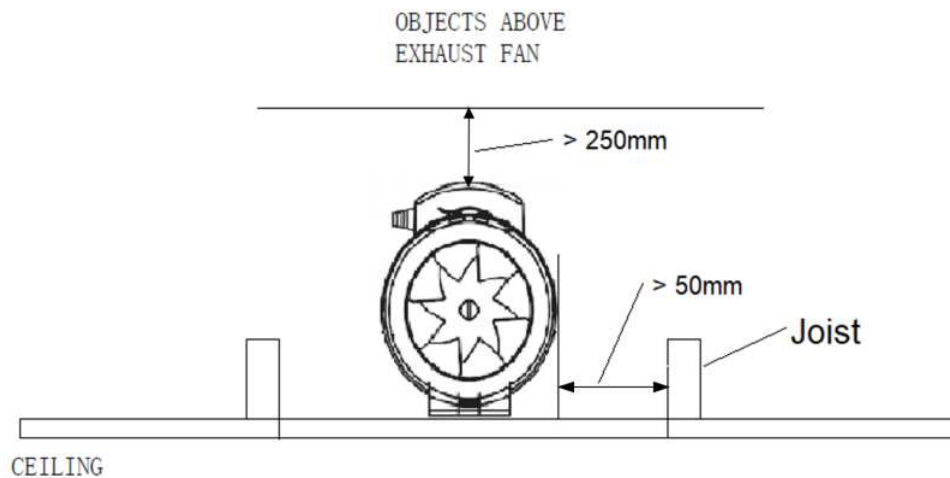

Fig.4 Clearance diagram
- Ensure all the clearance value to the structural building element are maintained according to the clearance diagram in Fig.4.